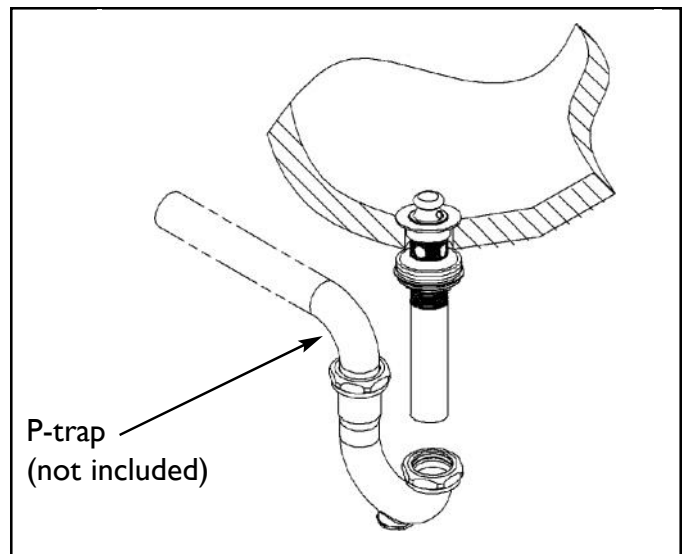

Figure 5
- 5. Slide cone washer up tailpiece, (cone side up), against underside of sink. Thread flange nut with steel washer between rubber washer & flange nut. Firmly tighten. See Fig. 5**
- 6. Attach tailpiece to p-trap drain (not included). See Fig. 5**